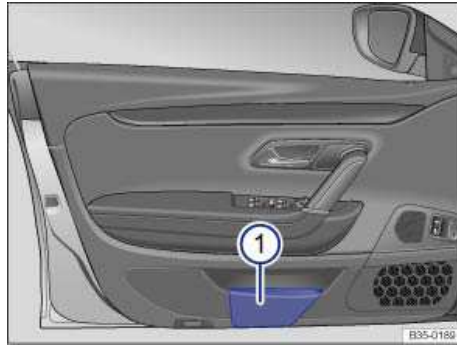

Fig. 113 In the driver door: Storage compartment.
There is a storage compartment in the driver and front passenger doors ⇒ fig. 113 (1).